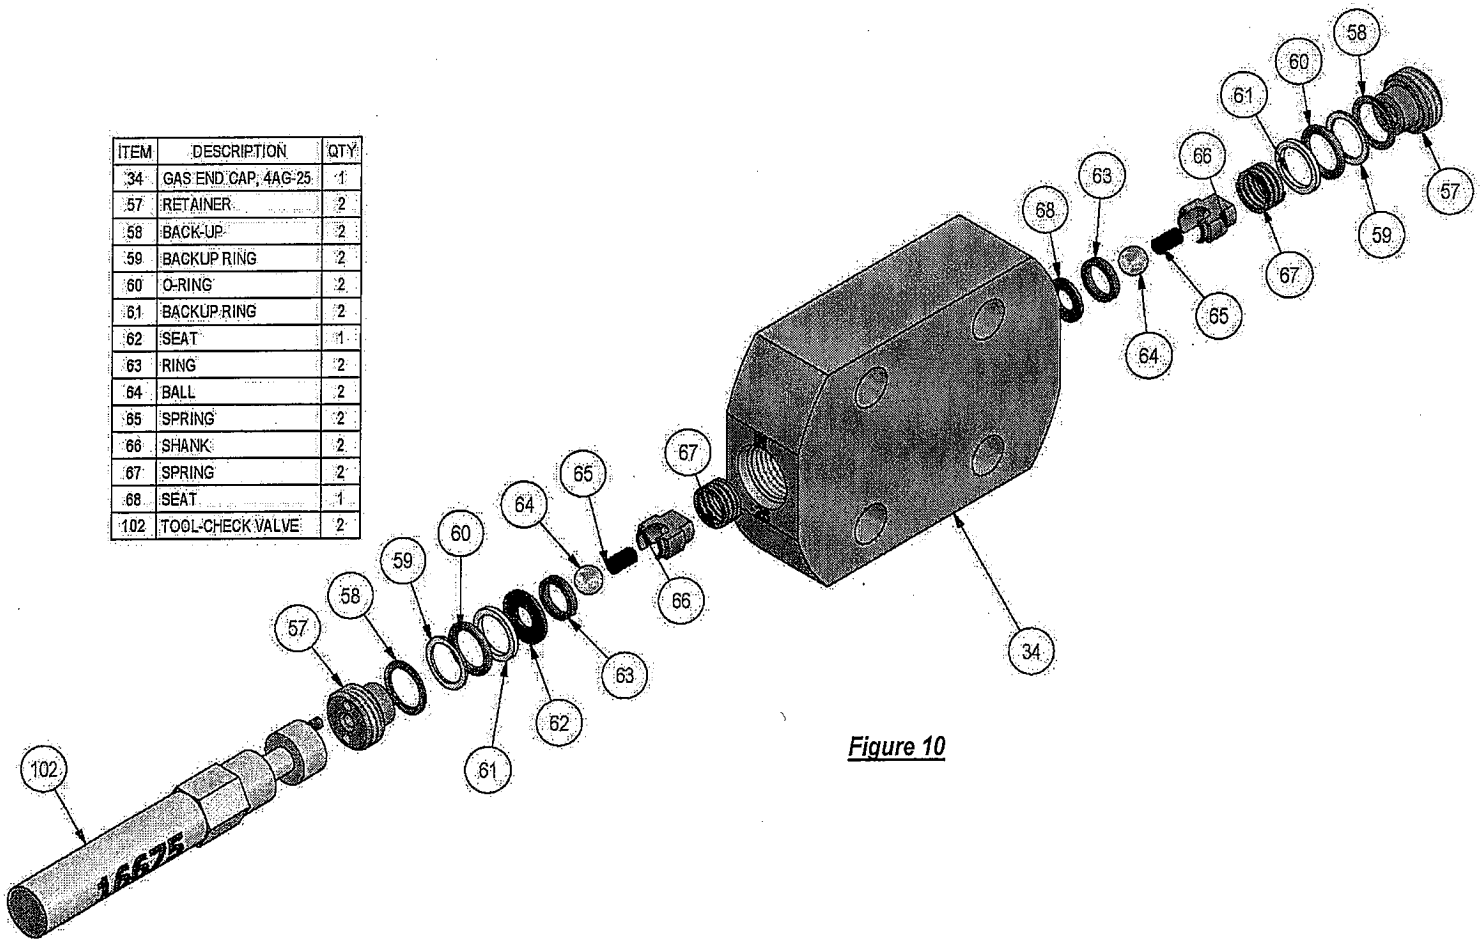

Figure 10
- A. Use tool (102) to remove retainer (57) and disassemble check valve assemblies as shown in figure 10.
1. Place outlet port in the upright position. Insert seat, ball, ring, small spring, shank, and large spring until seated properly (See Figure 10 for correct order). It is important that these parts are in proper position before continuing. Slide one set of packing's (bronze, thin tfe back-up, o-ring, thick tfe back-up) in the order shown onto seat fitting. The thick TFE back-up will provide sufficient grip to retain the packing's during insertion. Then, using assembly tool to screw seat in until it is snug (approximately 5/8" below end cap face). Using a thin rod, depress ball through inlet port to verify proper movement.